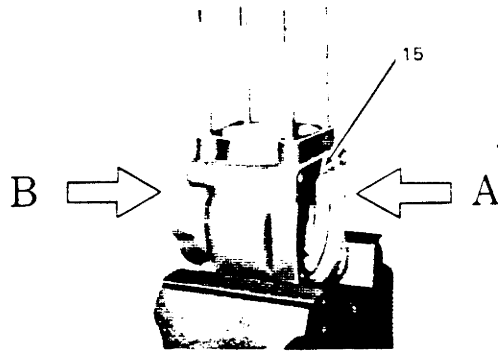

Fig. 4-42
(6) Install the crankshaft into the A end of the crankcase as shown in Fig. 4-42, passing it through the end of the connecting rod. Place the chamfered side of the ring (washer) toward the connecting rod.